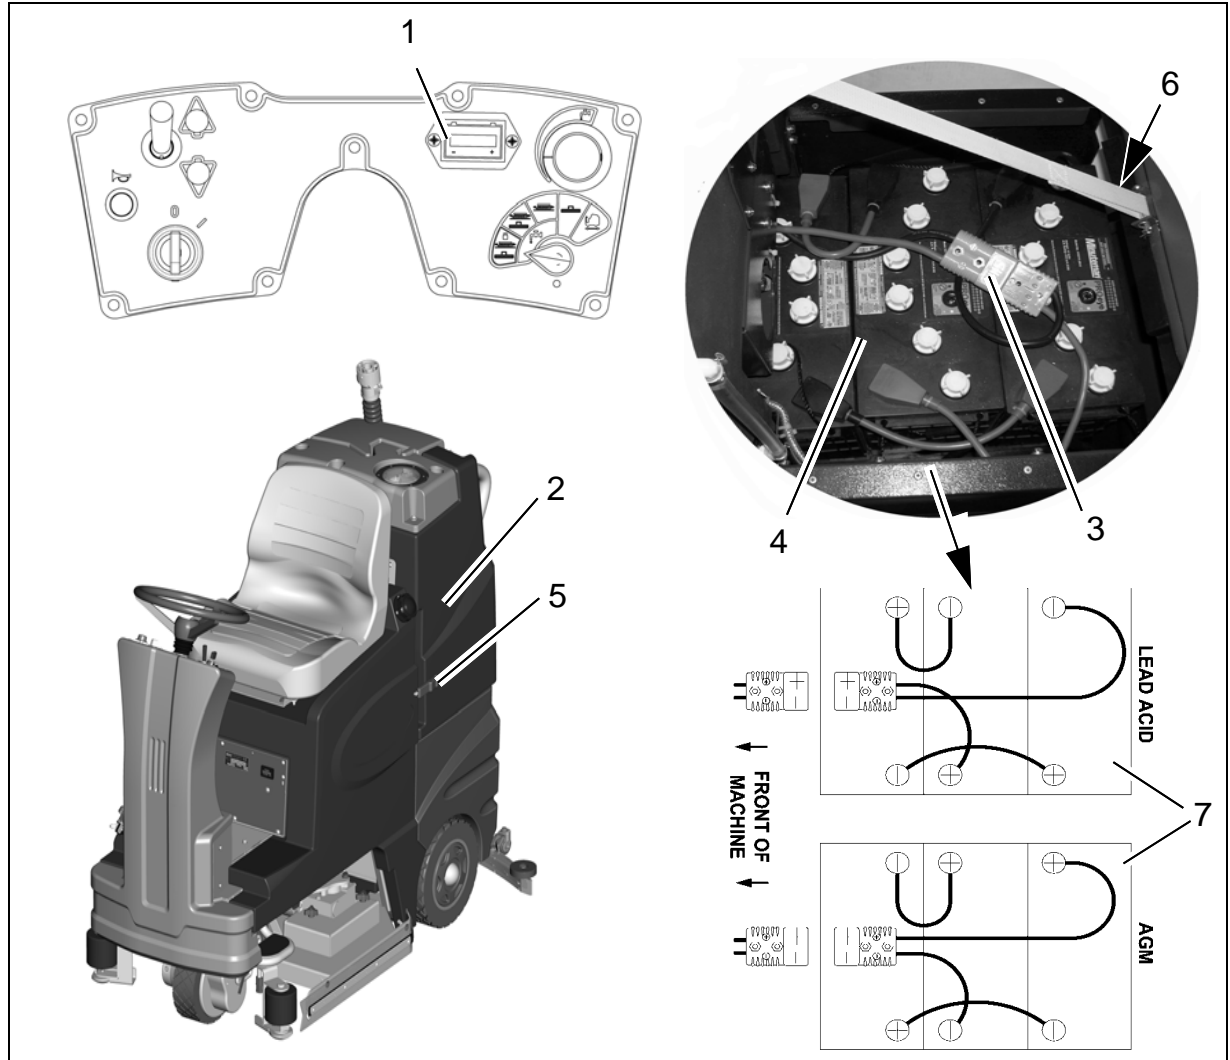

Fig.12
Connect the charger to the battery connector (Fig. 12/3) Charging batteries is recommended if at least one bar of the battery gauge has extinguished after operation of the machine. Observe the operating instructions of the charger as well as the operating instructions of the battery manufacturer. In case it is intended to change the type of battery the charger has to be adjusted only by Minuteman contract workshops.
3. Open empty recovery tank (Fig. 12/2) and secure by strap (Fig. 12/6).
4. Disconnect battery connector (Fig. 12/3).
2. Open empty recovery tank (Fig. 12/2) and secure by strap (Fig. 12/6).
4. Connect battery poles and enclosed connecting cables according to battery connection/layout (Fig. 12/7). Tighten and grease poles.